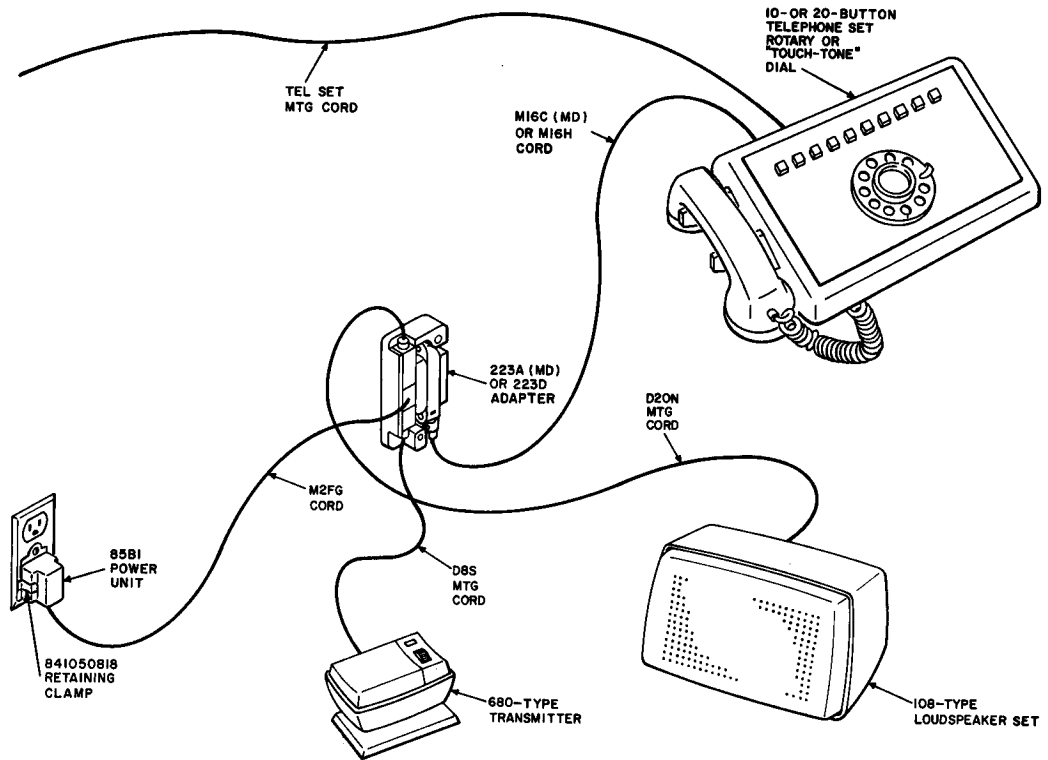

Fig. 1—4A Speakerphone System Arrangement, 10- or 20-Button Telephone Set
2.07 Power can be provided by making connections as shown in Fig. 1 and 2.